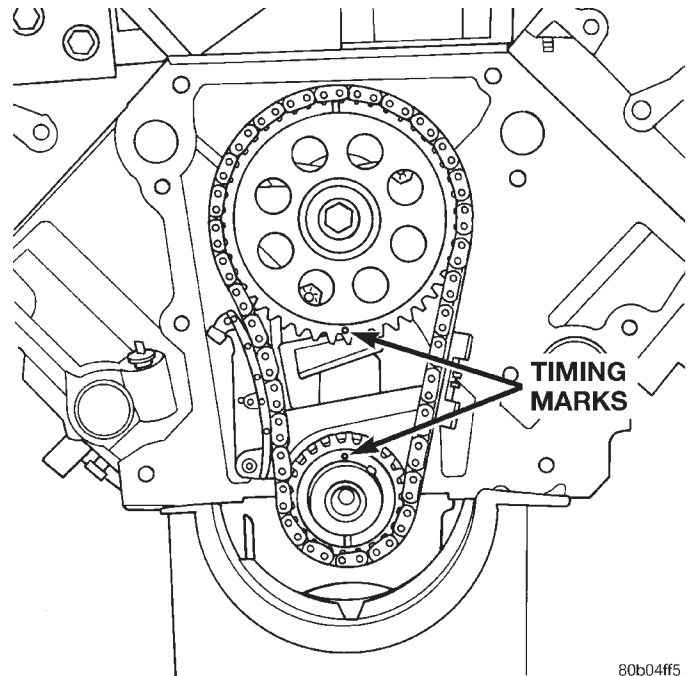
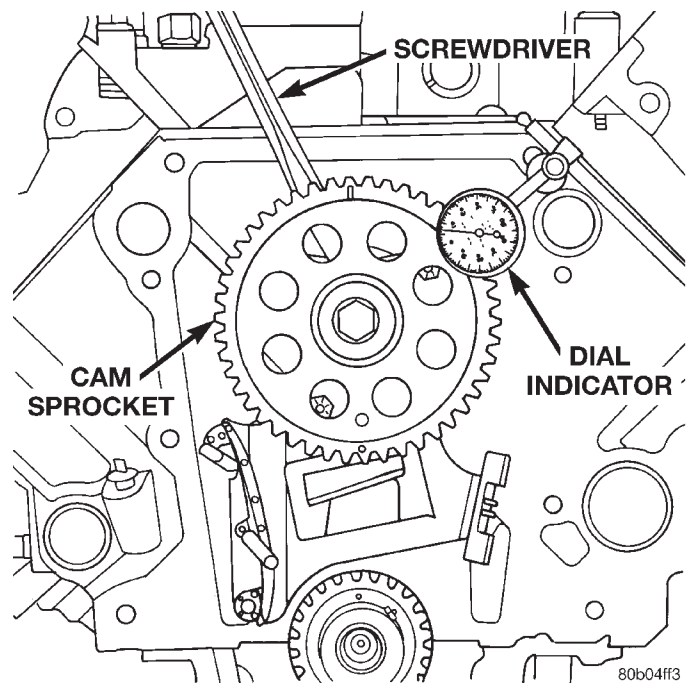

Fig. 33 Alignment of Timing Marks
Fig. 34 Checking Camshaft End Play
(9) Lift sprockets and chain (keep sprockets tight against the chain in position as described).
(10) Slide both sprockets evenly over their respective shafts and use a straightedge to check alignment of timing marks (Fig. 33).
(11) Install the camshaft bolt/cup washer. Tighten bolt to 68 N·m (50 ft. lbs.) torque.
(12) Measure camshaft end play (Fig. 34). Refer to Specifications for proper clearance. If not within limits, install a new timing chain tensioner.